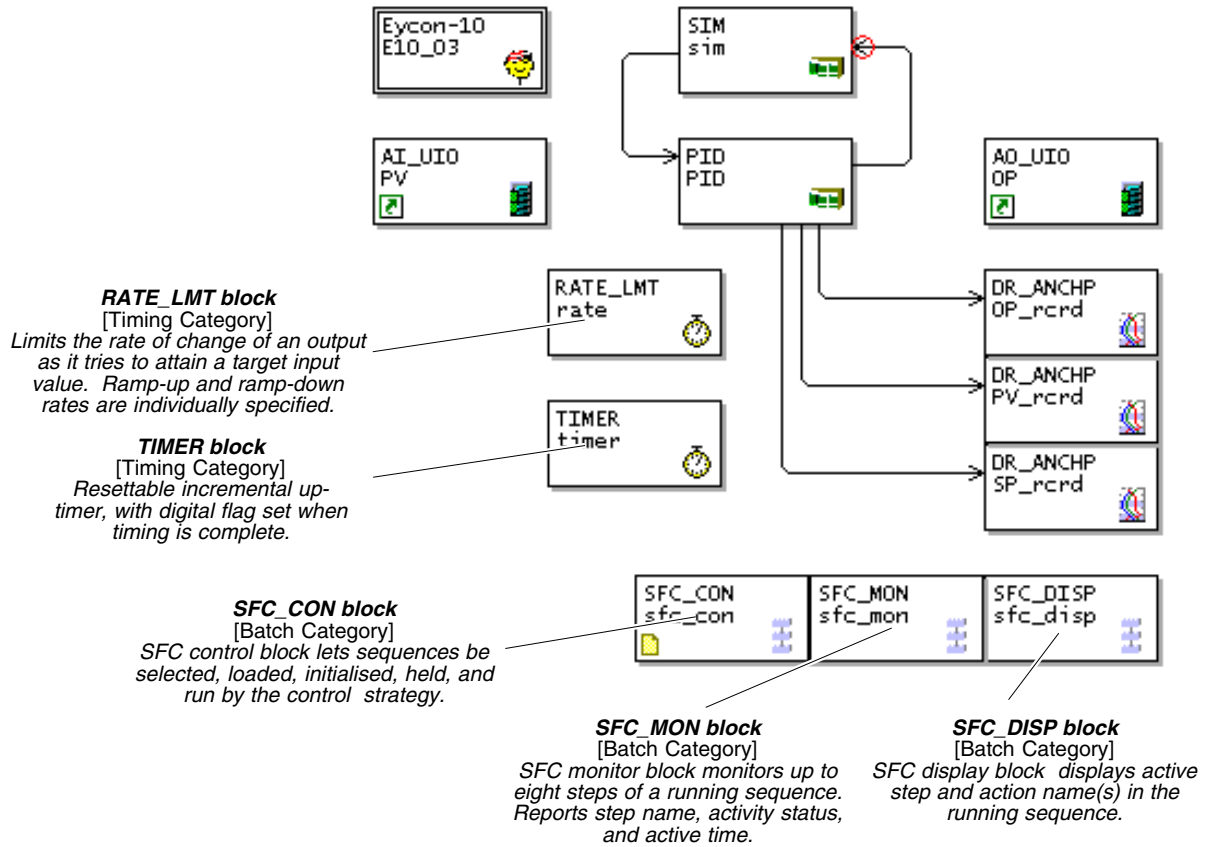

Figure 8-1 The simple PID loop strategy adapted for sequence
Figure 8-1 shows the (simulation) PID loop strategy you created in Chapter 2, but with five new blocks, SFC_CON, SFC_MON, SFC_DISP, RATE_LMT, and TIMER, added to give the strategy sequence and timed ramping capability. The AI_UIO and AO_UIO blocks have been deleted as they are not needed in this simulation strategy.
- 1 Open the simulated PID loop strategy you built in Chapter 2 in LINTools, by double-clicking its icon in Explorer view. Delete or ignore the AI_UIO and AO_UIO blocks, then add the five new blocks as shown in Figure 8-1.
<p>Note *(Block type) blockname.field.subfield format, referring to Figure 8-1. New wiring is listed below the dashed line.</p>
You must also edit the **Name** fields in all blocks, see Figure 8-1.
Note *(Block type) blockname.field.subfield format, referring to Figure8-1